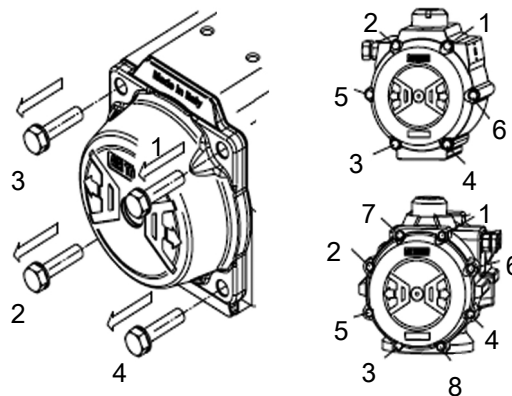

Fig. 9: Cover removal
- ▶ Insert the cover seal (item 14) into the groove.
- ▶ Place the covers on the housing (item 50) and check that the O-rings remain in the groove.
- ▶ Insert the cover screws (item 13) and tighten them in sequence (see Figure 9).